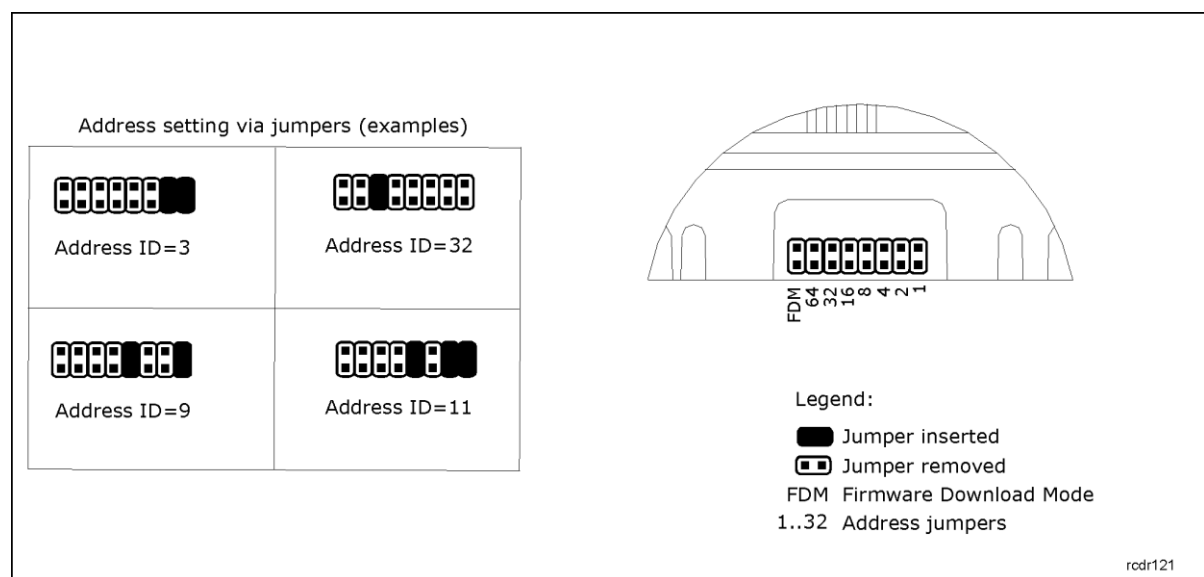

Fig. 12 Addressing jumpers
The address of controller can be set by means of jumpers – see fig. 12. Each time the new address is configured, controller must be restarted (via RESET button or powering device off and on) to make new settings valid. The address range is 00..127 and if the address is in range 100..127 then the controller ignores such setting and all other addressing methods can be used. If the address is in range of 00..99 then it has the highest priority, FixedID is not effective, and the address cannot be changed by PR Master software nor manually during Memory Reset procedure.
- Place jumper on FDM pins (see fig. 12)